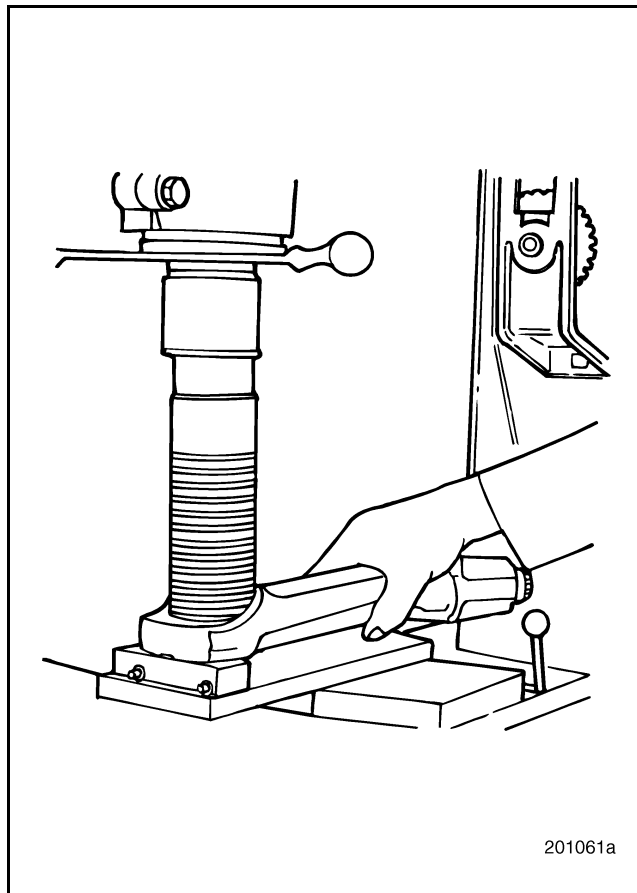

Figure 232 — Burnishing Wrist Pin Bushing
3. Remove the bushing remover/installer and reposition the rod assembly in the press with the wrist pin bushing burnishing broach J 37718 (Figure 232).